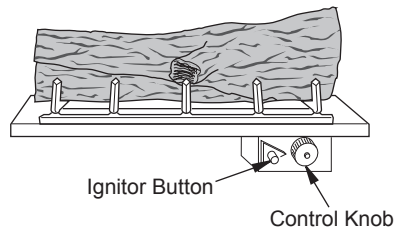

Figure 26 - Control Knob and Ignitor Button Location
3. Turn control knob clockwise ↻ to the OFF position (see Figure 26).
4. Wait five (5) minutes to clear out any gas. Then smell for gas, including near the floor. If you smell gas, STOP! Follow "B" in the safety information, column 1. If you don't smell gas, go to the next step.
5. Turn control knob counterclockwise ↺ to the PILOT position. Press in control knob for five (5) seconds (see Figure 26).